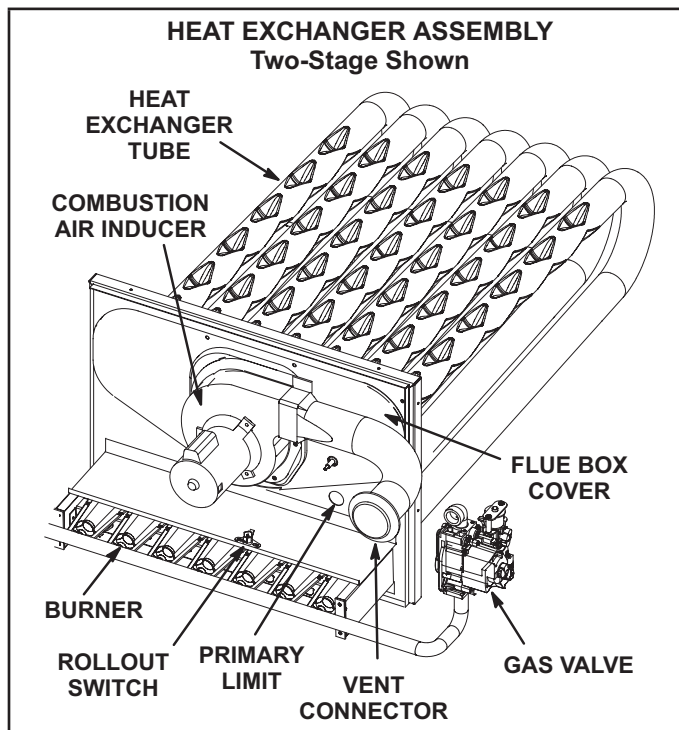

FIGURE 38
- 4 - Remove and retain screws securing combustion air inducer to flue box. Remove vent connector. See FIGURE 38.